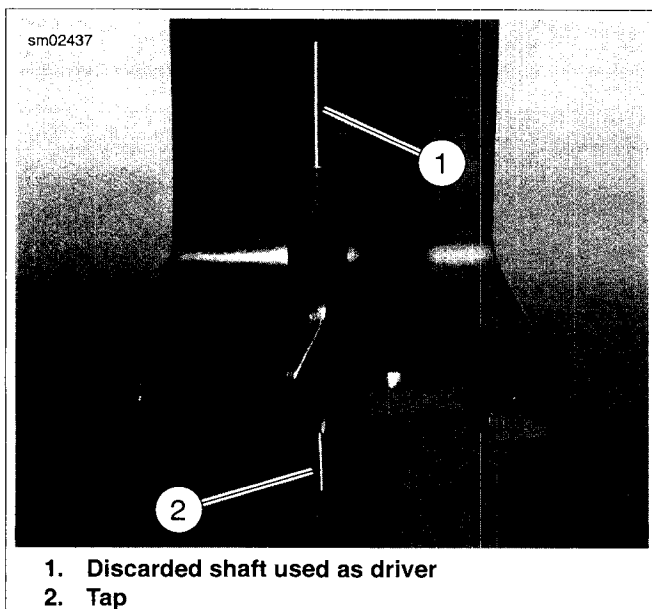

Figure 3-91. Removing Bushing
1. See Figure 3-91. Turn a 9/16"-18 tap (2) into bushing until tight. Place rocker arm under ram of arbor press with tap at bottom. Slide a discarded rocker arm shaft (1) through open end of rocker arm until contact is made with tap. Using shaft as driver (and untapped bushing as pilot), press against shaft until both tap and bushing are free.